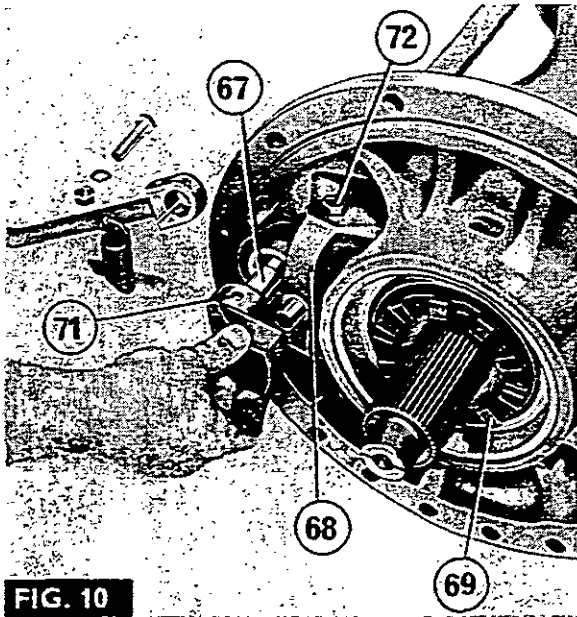
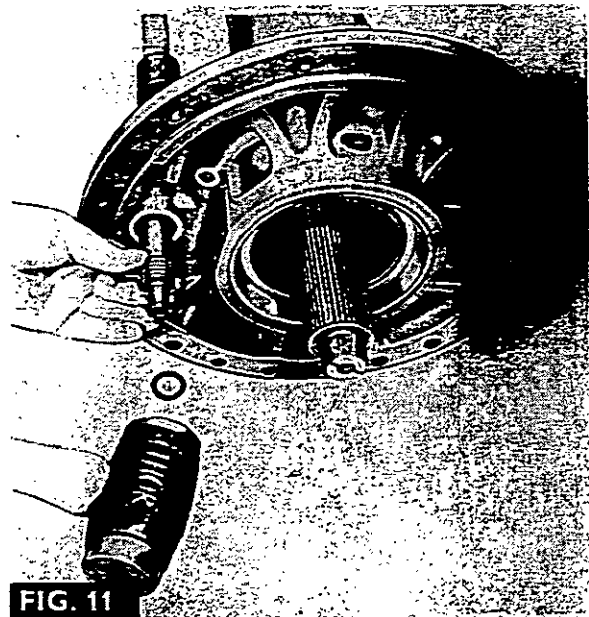

FIG. 10
FIG. 11
1. Fig. 11. Fit a new oil seal (73) into the trumpet housing using tool MF 259A as shown.
2. Clean and degrease the threads of the shifter fork securing bolts (72) and their locating holes in the trumpet housing.
3. Fig. 10. Slide the coupler (69) on to the axle shaft splines, with the teeth facing outwards as shown.
4. Position the shifter fork (68) together with the two guide shoes (70) in the trumpet housing, making sure the guide shoes locate properly on the coupler.
5. Apply a small quantity of either Loctite grade A.V. or Casco LF5 to the threads of the bolts (72) and secure the shifter fork to the trumpet housing, then torque the bolts to 5,5 kg-m (40 lb-ft).
6. Fig. 10. Taking care not to damage the oil seal, slide the cam (71) and shaft (67) into the trumpet housing simultaneously refitting the arm (65) to the shaft (67), and locating the dowel on the shifter fork (68) in the cam (71).